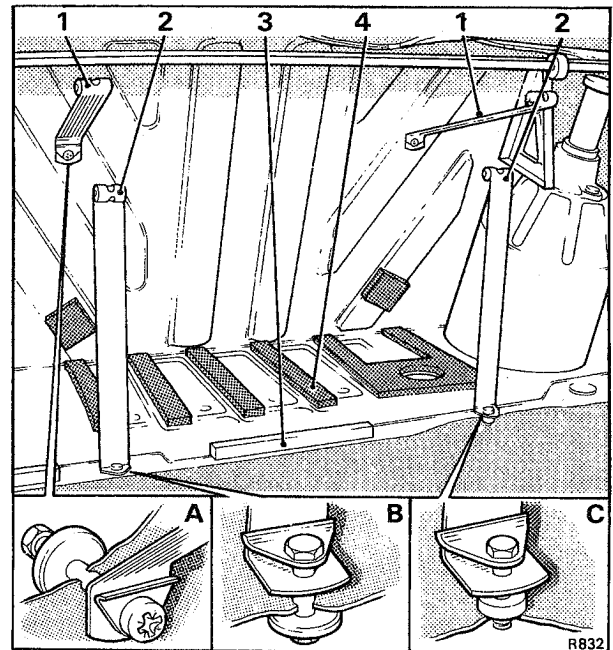

Fig. K10 Luggage compartment - Fuel tank fittings
The position of all mounting strips are shown in Figure K10.
4. Fit the four fuel tank securing straps to the body (see Fig. K10). The two upper mountings are similar and are shown in Figure K10 - Inset A. The two lower mountings are different, the left-hand mounting is shown in Figure K10 - Inset B, where the bolt passes through the body and is retained by a nut. The right-hand mount is shown in Figure K10 - Inset C, where the bolt has a distance piece (if fitted) and screws directly into a threaded bush attached to the body.